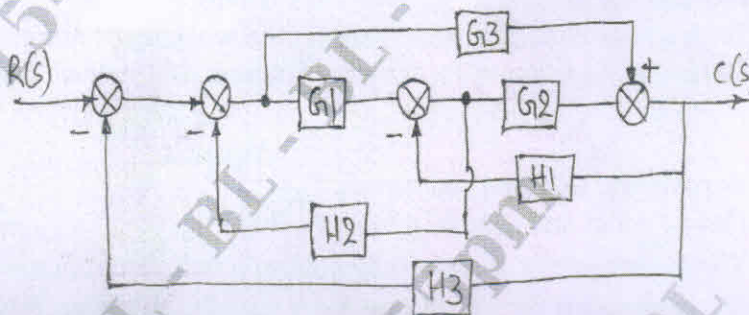

Fig. Q6 (a)
- 6 a. Draw the signal flow graph for the given block diagram shown in Fig. Q6 (a) and find its control ratio using Mason's gain formula.